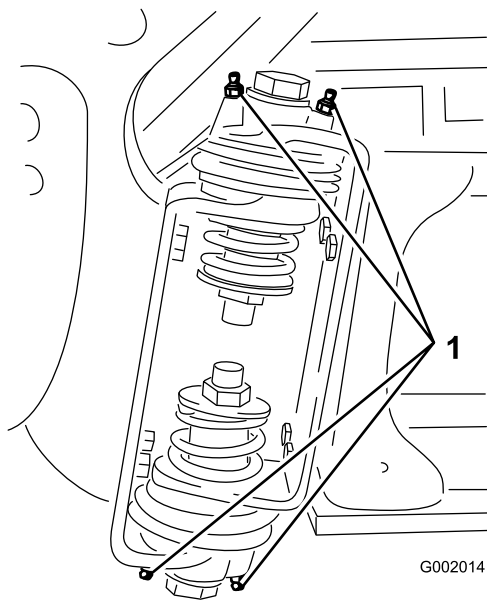

Figure 106
2. Pump grease into the bearing or bushing at each fitting (Figure 106).